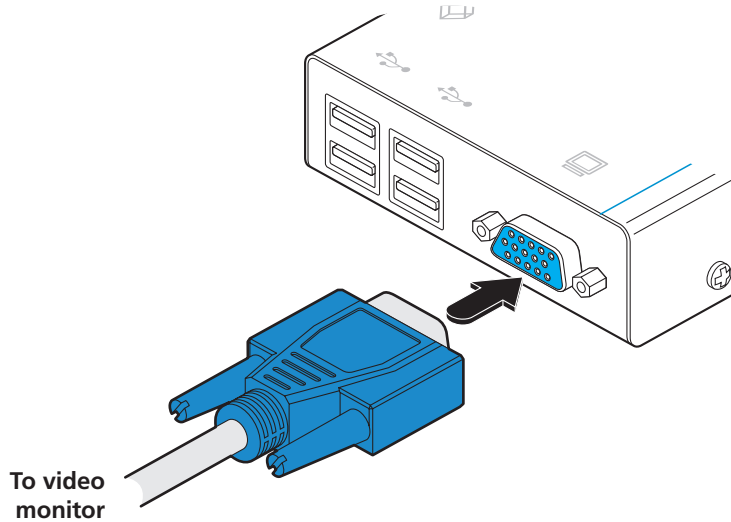

Figure 3-7. Attaching the VGA video monitor cable
- 2 Attach the lead from the video monitor to the video out socket on the remote module as shown in Figure 3-7: